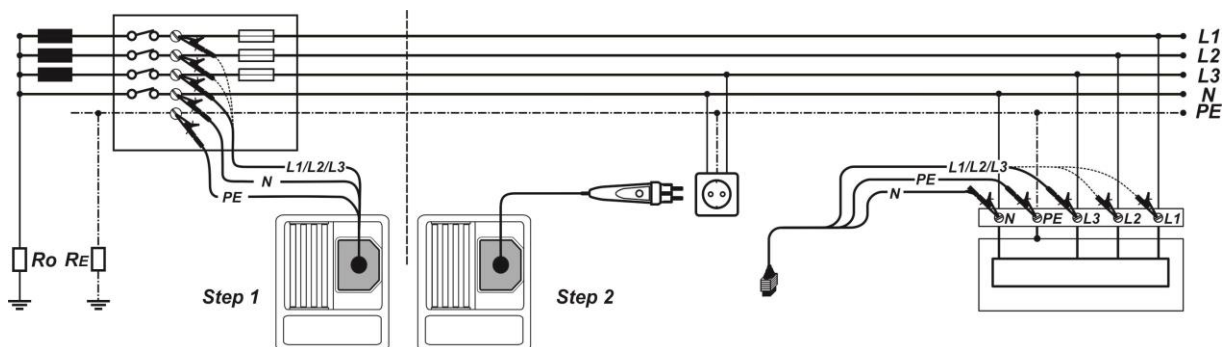

Figure 5.30: Phase-neutral or phase-phase voltage drop measurement – connection of plug commander and 3-wire test lead
- ❑ **Connect** the test leads to the origin of electrical installation (see Figure 5.30).
- ❑ **Connect** the test leads to the tested points (see Figure 5.30).